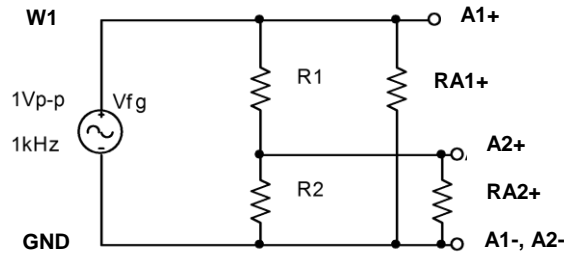

Figure B-7.
- The more exact model of this measurement is given in Figure B-7, where RA1+ and RA2+ represent the effective internal input resistances of the analog input channels of the Analog Discovery. The effective input resistance of A1+ can be ignored (Do you know why?), but the input resistance of A2+ effects the measurement. Using the measurements above, estimate the value of RA2+.